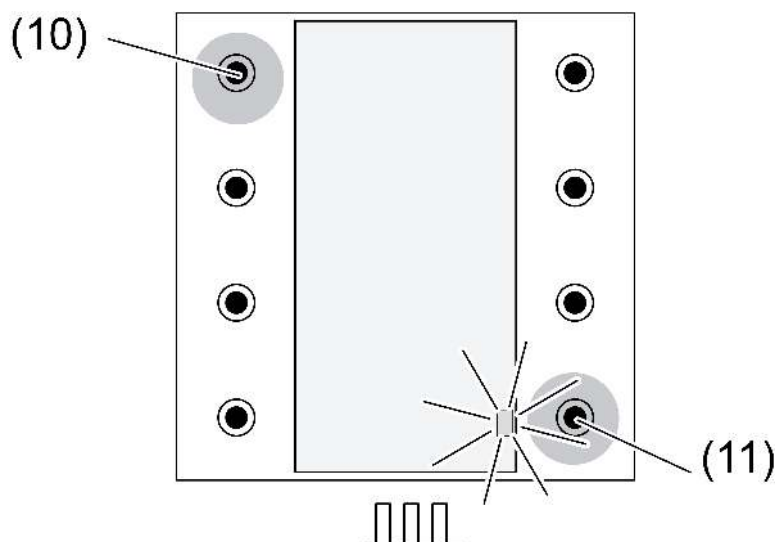

Figure 4: Activating programming mode for channel buttons
- Press the top left (10) and bottom right (11) buttons simultaneously for longer than 4 seconds (figure 4).
- Press the top left (10) and bottom right (11) buttons simultaneously for longer than 20 seconds (figure 4).